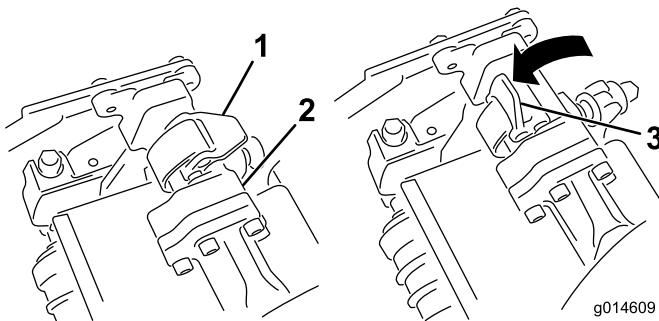
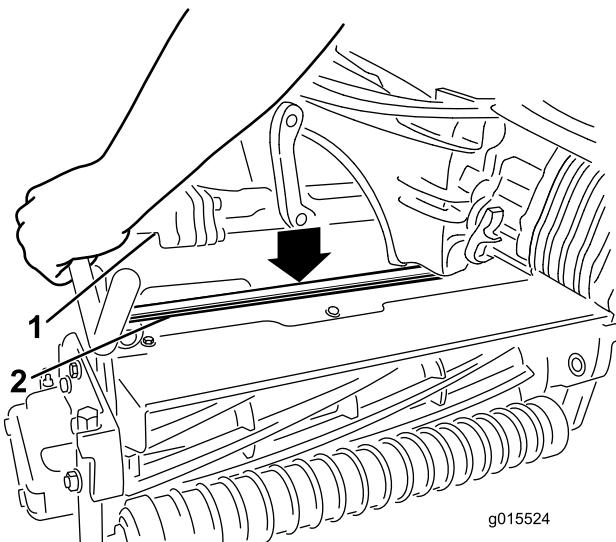

Figure 13
Figure 14
- With the latches on the suspension-arm bar pointing up (i.e., open) (Figure 13), push the suspension arm down so that the bar fits over the bar across the top of the cutting unit (Figure 14).
- Close the latches down and around the cutting-unit bar and lock them in place (Figure 13).